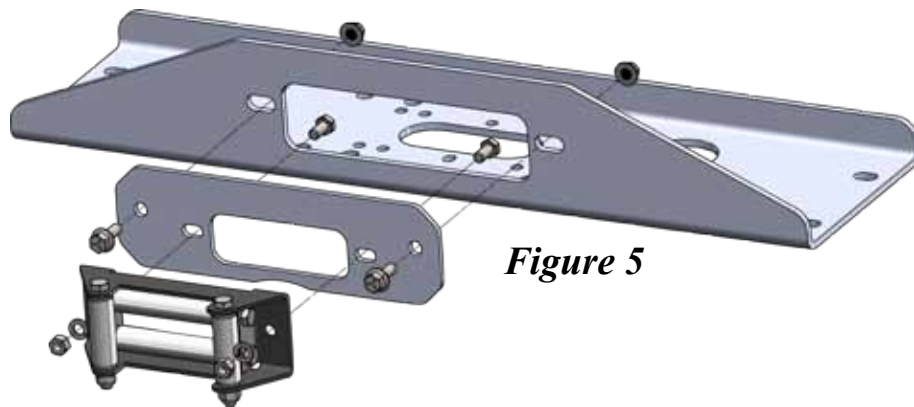

Figure 5
1. **Truck Winch:** With bolt pattern of 4.5" x 6.5" or 4.5" x 10" you will discard fairlead bracket (2 & 3) and mount the fairlead directly to winch mount (1).
2. **Wide Winch:** With bolt pattern of 3" x 6.6" you will use fairlead bracket (2) and assemble per *Figure 5*.
3. **Standard Winch:** With bolt pattern of 3" x 4.875" you will use fairlead bracket (3) and assemble per *Figure 5*.